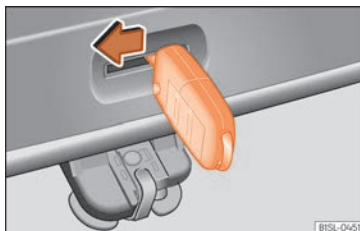

Fig. 75 From the trunk: emergency unlocking of the rear lid.
- Insert the key blade into the opening of the rear lid » Fig. 75 and press the unlocking lever in the direction of the arrow to unlock the rear lid.